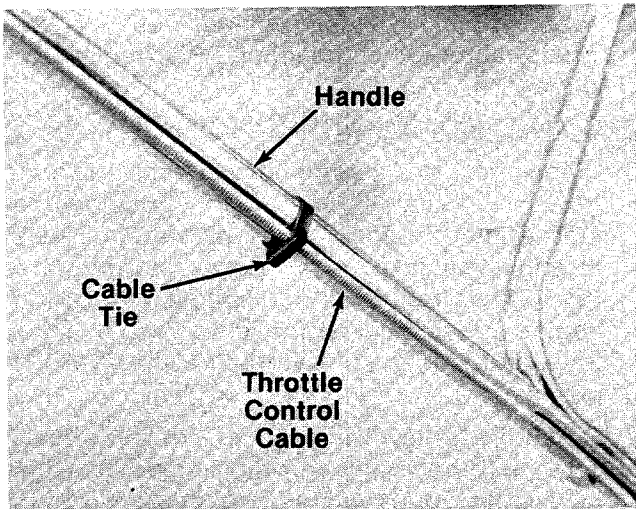

FIGURE 4.
- ← 5. Secure throttle control cable to handle with ties provided. See figure 4.